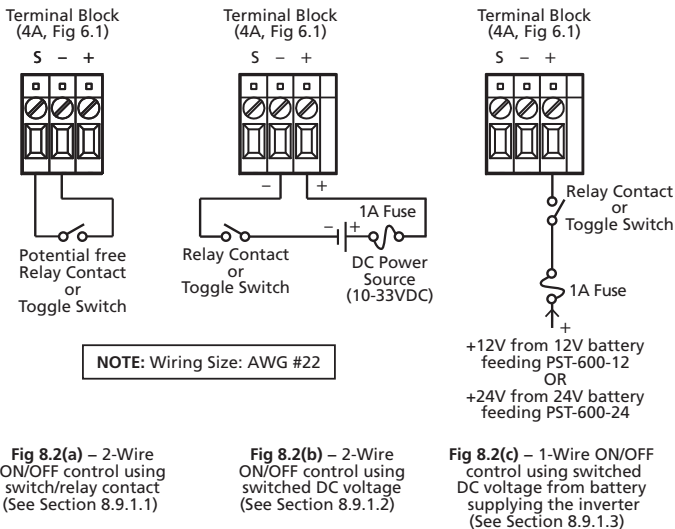

Fig. 8.2: ON/OFF Control from Remote Location using External 2-Wire or 1-Wire Control
- b) Power on the inverter using one of the 3 On/Off Control Options shown in Fig 8.2(a) to 8.2(c)
The unit can be switched ON/OFF from a remote location using external, wired ON/OFF control options as shown in Fig 8.2(a), (b) and (c) and associated details at Sections 8.9.1.1 to 8.9.1.3.
8.9.1.1 2-Wire ON/OFF Control from Remote Location Using Switch/Relay Contact, Fig 8.2(a):
8.9.1.2 2-Wire ON/OFF Control Using Switched DC Voltage (10-33VDC), Fig 8.2(b):
8.9.1.3 1-Wire ON/OFF Control Using Switched DC Voltage from the Battery Supplying the Inverter, Fig 8.2(c) :